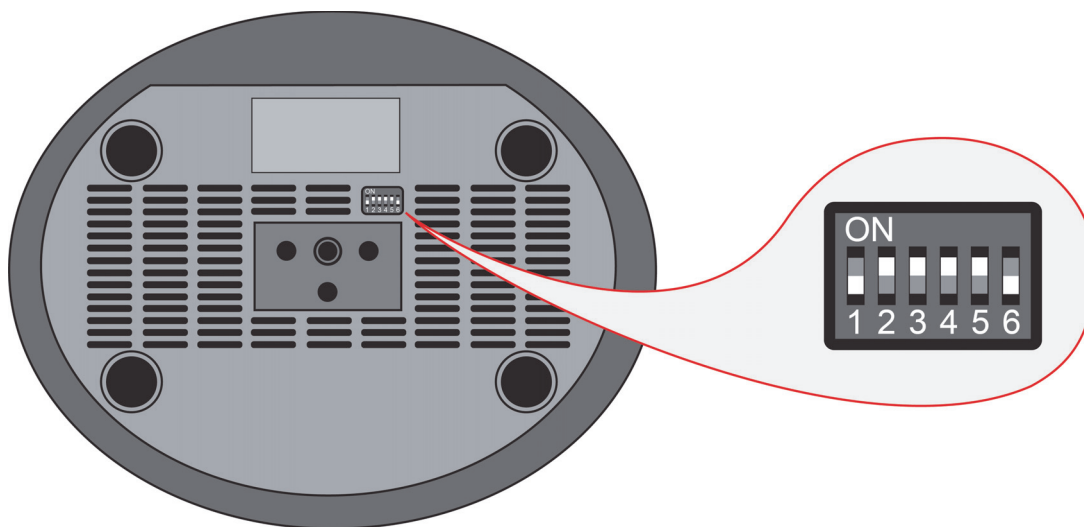

Figure 1 - DIP switches, with Switch 1 turned OFF and Switch 2 turned ON
2. Use a paper clip or other small tool to set the DIP switches on the underside of the camera as follows: **SW1** to **OFF**; **SW2** to **ON**, as shown in Figure 1.